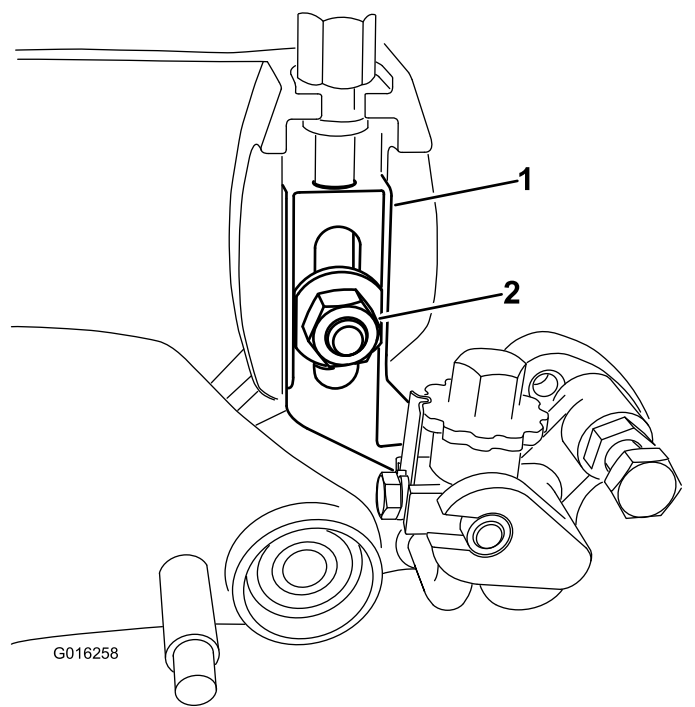

Figure 33
5. Remove the plow bolt, nut, and washer securing the height-of-cut arm assembly to the side plate (Figure 33).